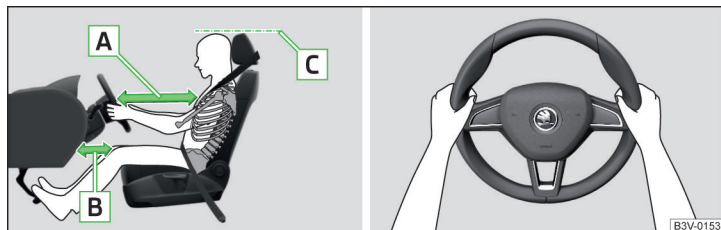

Fig. 14 Correct seated position for the driver/correct steering wheel position
- ✓ For vehicles equipped with driver knee airbags, adjust the driver's seat in a forward/back direction so that there is a gap of at least 6 cm between the legs and the dashboard in the vicinity of the knee airbag » [Fig. 14 - \[B\]](#).
- ✓ Adjust the steering wheel so that the distance between the steering wheel and your chest is at least 25 cm » [Fig. 14 - \[A\]](#).
- ✓ Adjust the headrest so that the top edge of the headrest is at the same level as the upper part of your head (not for seats with integrated headrests) » [Fig. 14 - \[C\]](#).
- When driving, hold the steering wheel with both hands firmly on the outer edge in the "9 o'clock" and "3 o'clock" position » Fig. 14. Never hold the steering wheel in the "12 o'clock" position or in any other way (e.g. in the middle, inner edge of the steering wheel or similar). Otherwise, in the event of airbag deployment, you could suffer serious injury to the arms, hands and head.
- ✓ Adjust the headrests so that the top edge of the headrest is at the same level as the upper part of your head » Fig. 14 on page 20 - **C** (not for seats with integrated headrests).
- ✓ Adjust the headrests so that the top edge of the headrest is at the same level as the upper part of the head » Fig. 14 on page 20 - **C**.